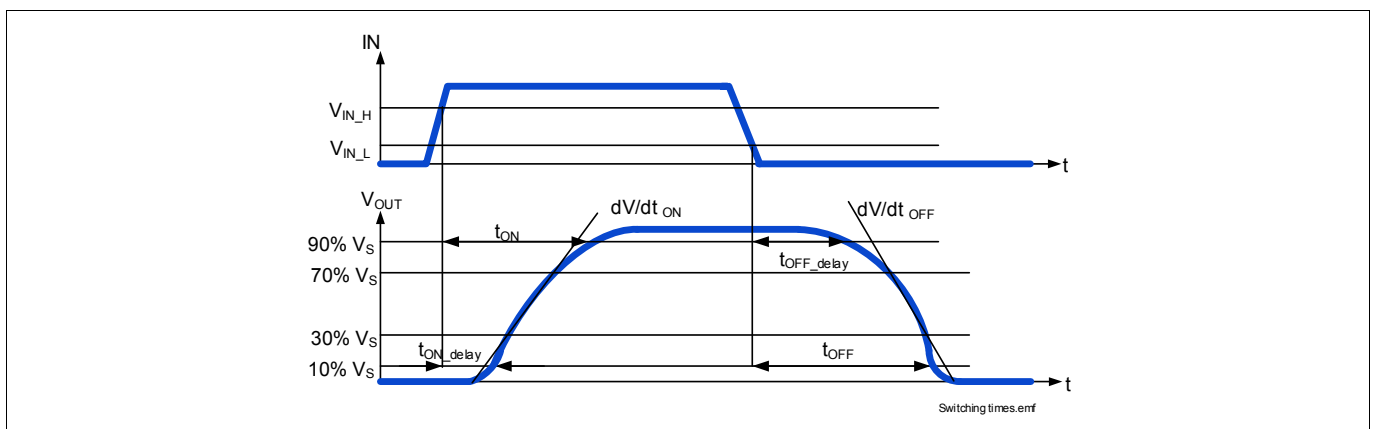

Figure 10 Switching a Resistive Load Timing
**Figure 10** shows the typical timing when switching a resistive load.